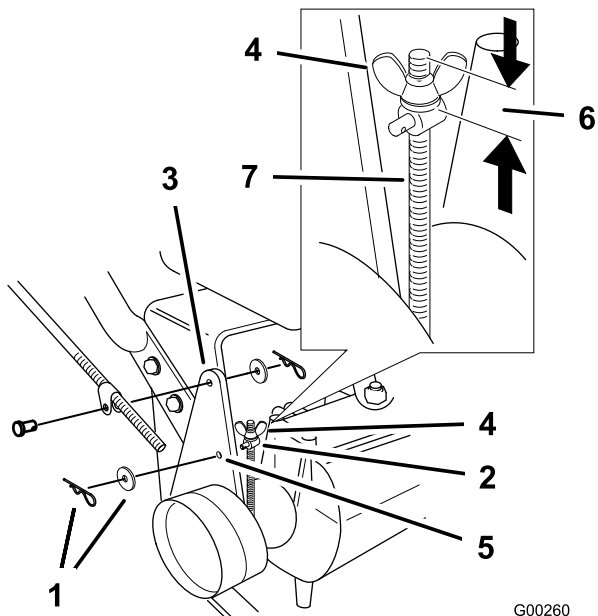

Figure 48
Note: For the initial adjustment, adjust the wing nut until it is 1-1/4 inches from the top of the rod (Figure 48).
5. To adjust the brake remove the hair pin cotter and washer from the brake lever and trunnion (Figure 48).
8. Install the trunnion into hole F (Figure 48). Tighten the wing nut.
9. Secure trunnion to brake lever with washer and hair pin cotter (Figure 48).